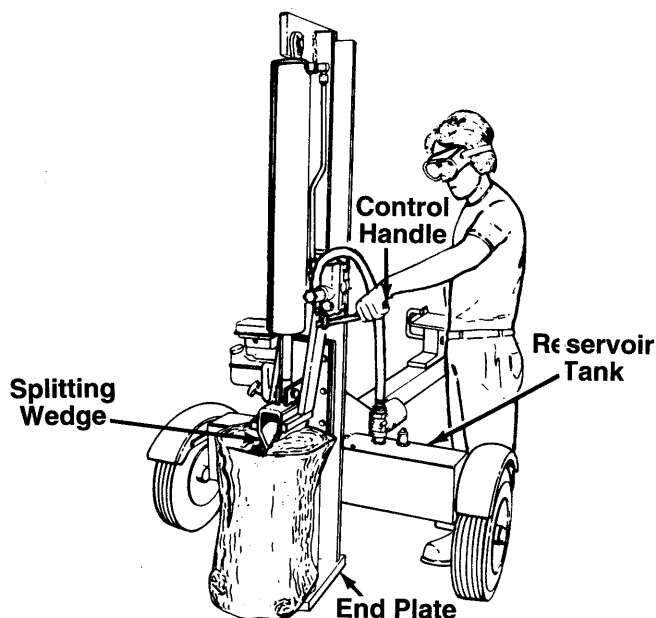

FIGURE 14.—Vertical Position
Use the log splitter only on a level, hard surface. Never stand next to the splitting wedge when operating the log splitter. Always stand behind the reservoir tank. See figures 14 and 15. Never attempt to cut a log in half sideways. Always split the log lengthwise. Maximum length of log to be split is 24".
4. Step behind the reservoir tank (see figures 14 or 15) and push the control handle in forward position until the log is split.